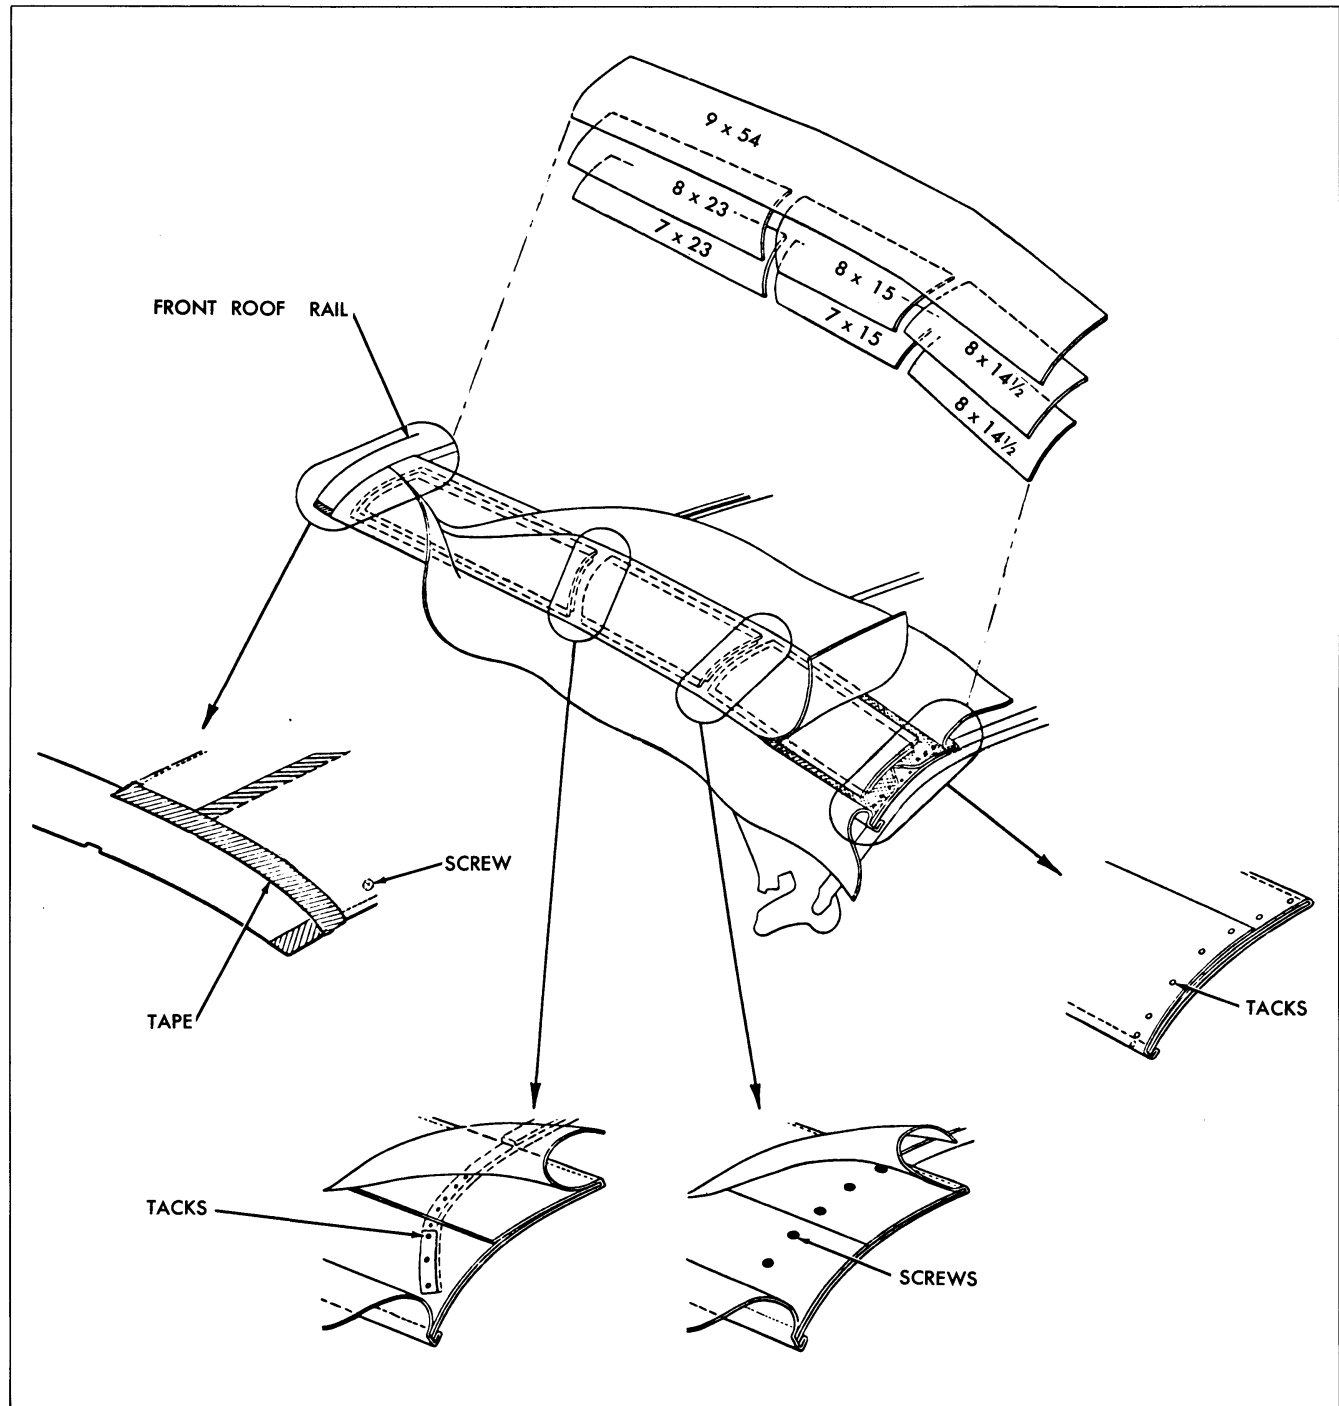
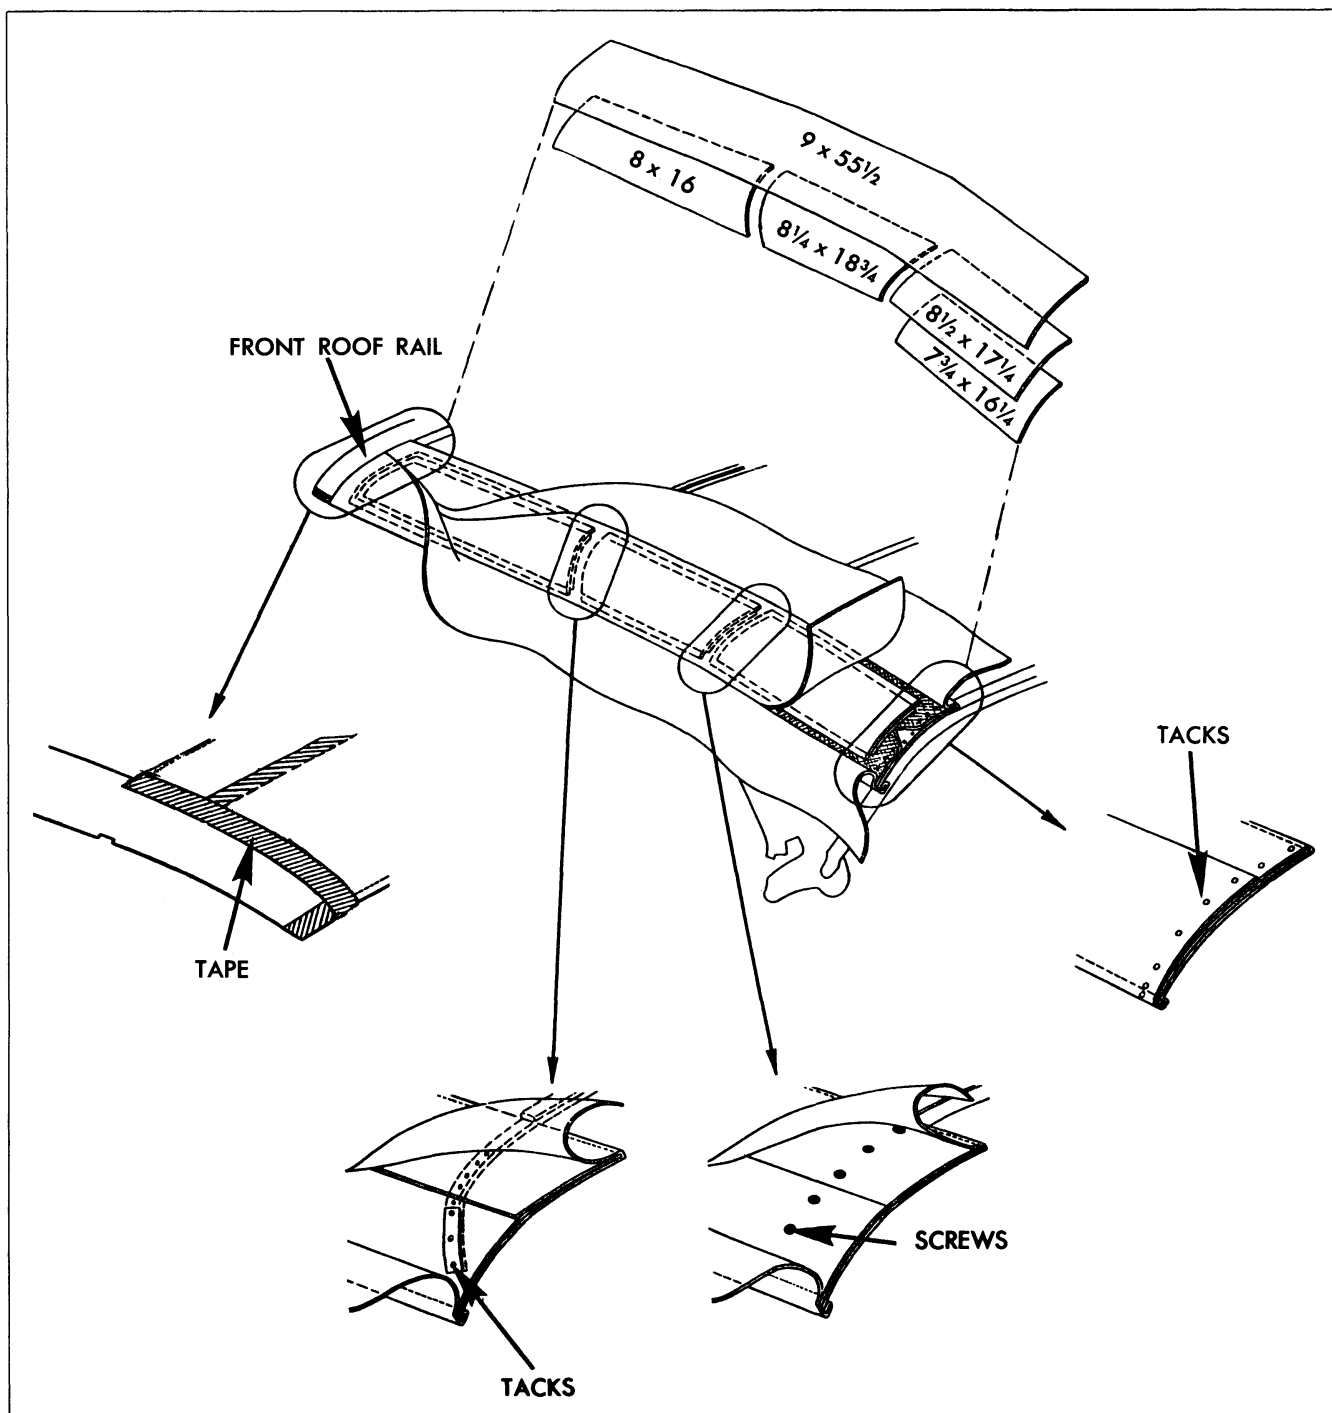

Fig. 21-21 Pontiac Side Stay Pad Installation
Fig. 21-22 Tempest Side Stay Pad Installation
2. Tack side stay pads in conventional manner to rear roof bow and stay tack pads to front roof rail. Make sure inboard edge of pad is properly aligned within depressions in bow and rail. Stay tack pad to front bow. Install pad to center bow with screws. Make sure inboard edge of pad is properly aligned within depression in bow. Install stay pad wadding in conventional manner using an approved trim cement (Pontiac, Fig. 21-21; Tempest, Fig. 21-22).